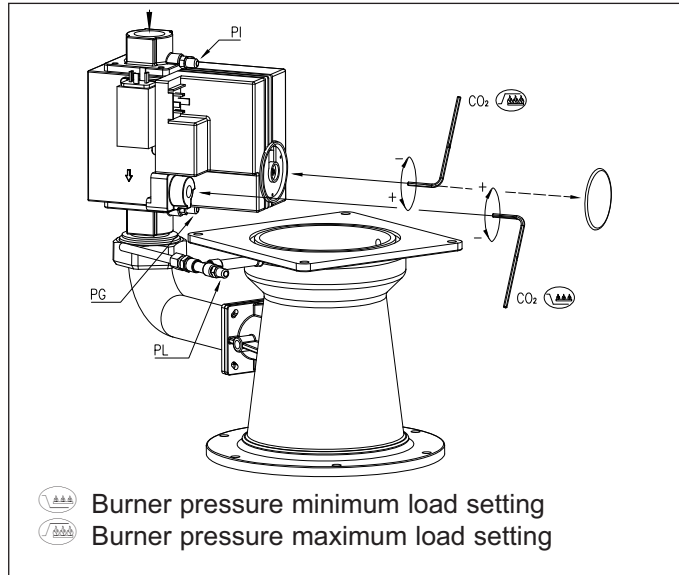

fig. 23 Gas valve multiblock adjustment points
11. Check the inlet gas pressure PI (see fig. 23).
Connect the gas pressure meter between measuring point PG on the underside of the gas valve multiblock and measuring point PL on the venturi (see fig. 23), ensuring the connections are gas tight.
- 17.d Check CO₂-percentage (O₂-percentage) against table 11. If the values exceed the given tolerances, adjust according to fig. 23. Check the flame through the inspection glass, the flame must not blow off.
- 17.g Check CO₂-percentage (O₂-percentage) against table 11. If the values exceed the given tolerances, adjust according to fig. 23.